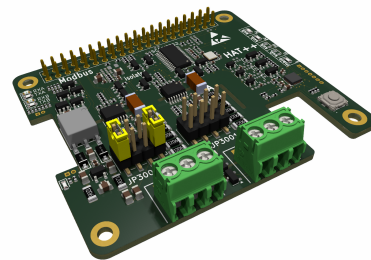

Figure 4: JP3001 / JP3002 intermediate-node configuration. Left: No jumpers installed. Right: Bias enabled only (termination disabled) – uncommon but valid.
If additional nodes are present between the endpoints, these intermediate nodes must remain unterminated and without external biasing, as shown in Figure 4 (left).
Normally, external biasing is enabled at one end node only. The configuration shown in Figure 4 (right) is electrically valid but uncommon.
- Intermediate nodes must remain unterminated and without biasing (Figure 4, right)